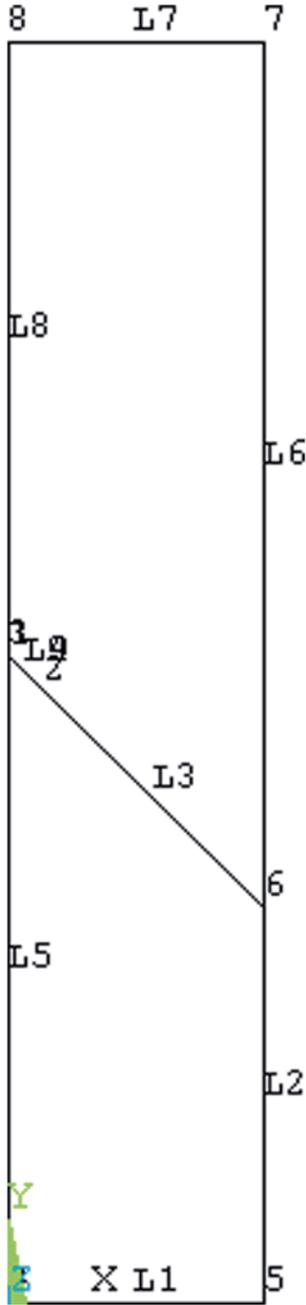

Fig. 8.70 Line plot with both keypoint and line numbers printed
- Figure 8.70 shows the line plot with both keypoint and line numbers printed. Observe that keypoints 1 and 3 and lines 4 and 9 are coincident.